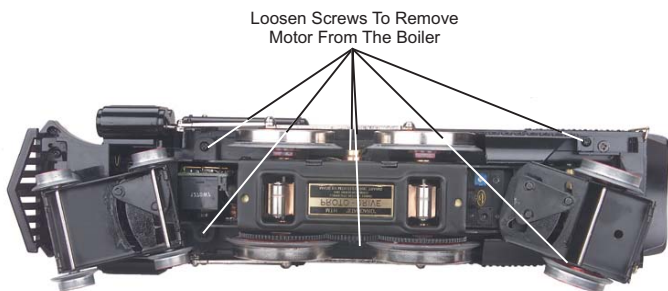

Figure 7: Removing the body from the chassis
1. To access the drive train, remove the cab from the chassis by loosening the (2) screws located on either end of the motor chassis as seen in Figure 7. Once loosened, remove the (2) steam chest screws located under the leading truck and gently lift the drive train out of the boiler.